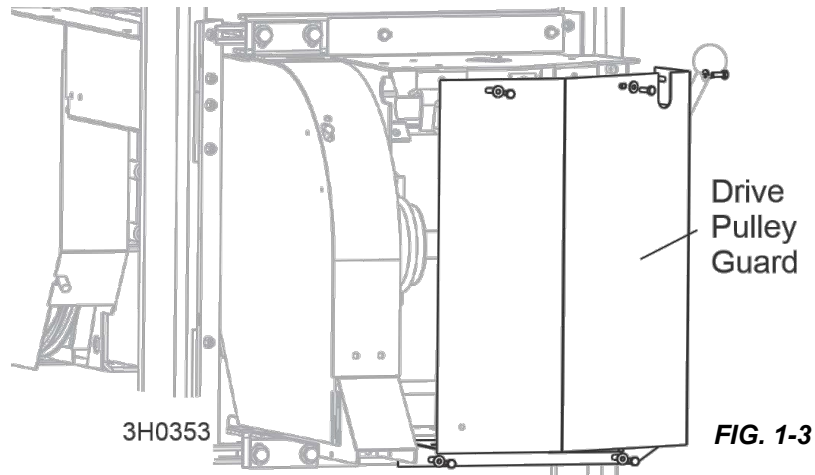

FIG. 1-3
1. Remove the drive pulley guard from the sawmill as shown in FIG.1-3.